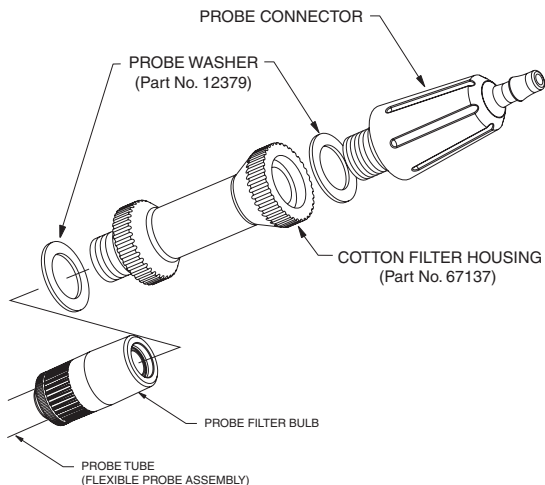

Fig. 12.8 Probe Connector Removal
- 1) Unscrew the probe connector in a counter clockwise direction, then remove the connector from the cotton filter housing as shown in Fig. 12.8.
- 2) Unscrew the cotton filter housing in a counter clockwise direction, then remove the housing from the filter bulb as shown in Fig. 12.8.
- 6) Attach filter housing to the filter bulb, in a clockwise direction, then tighten to secure. See Fig. 12.8.
- 8) Attach probe connector to the cotton filter, in a clockwise direction, then tighten to secure. See Fig. 12.8.